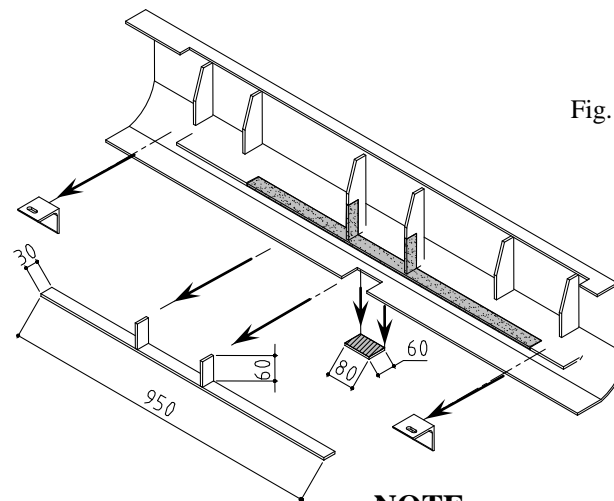

Fig. 2
2. Angle bar I (pos. 6) put underneath to left chassis member and fix loosely using bolts M12x1,25x35mm (pos. 10), next to inside of the chassis member put left bracket (pos. 5) and fix by one bolt M12x1,25x35mm (pos. 10) and two bolts M10x35mm (pos. 9) with angle bar (pos. 6)- loosely.
3. Angle bar II (pos. 7) put underneath to right chassis member and fix loosely using bolt M12x1,25x35mm (pos. 10), next to inside of the chassis member put right bracket (pos. 4) and fix by one bolt M12x1,25x35mm (pos. 10) and two bolts M10x35mm (pos. 9).
4. Between installed brackets put main bar of the towing hitch (pos. 1) and fix it by bolts M12x40mm (pos. 8- see figure).
6. Reassemble bumper after cut out his fragments – see figure 2.